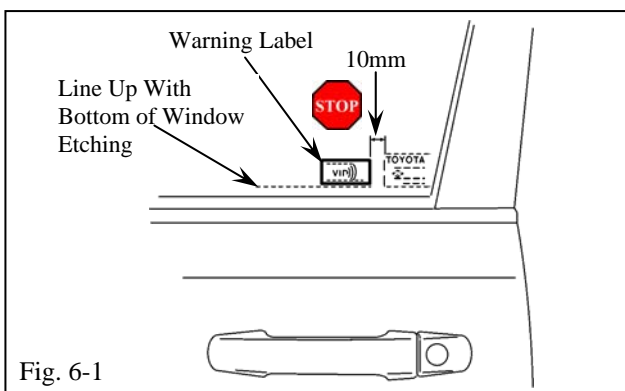

Fig. 6-1
- (a) Using household Windex, clean the inside surface of the front door windows. (Fig. 6-1)
- (1) For U.S vehicles, discard the Spanish label.
- (b) Place the warning label on the inside surface of the front door's windows as shown. (Fig. 6-1)
- (1) Use a piece of clean adhesive tape to lift the labels off their protective backing sheet.
- (2) Do not touch the adhesive surface of the warning labels.